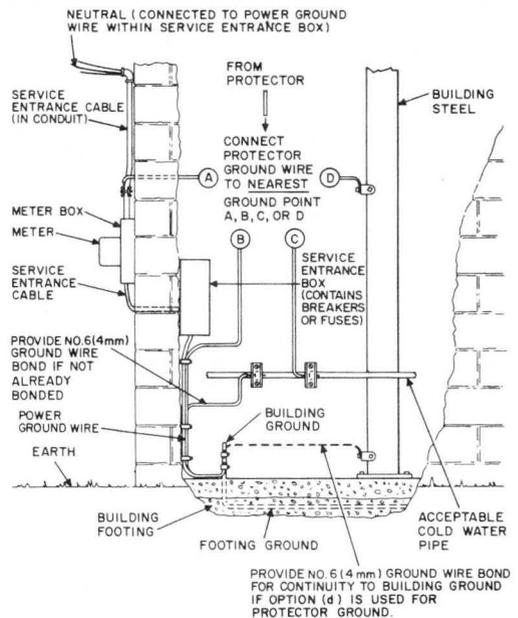

Fig. 46—Acceptable Water System or Building Ground (Power Service Grounded to Footing Ground)
6.05 Station protectors installed at locations where the power is grounded to a concrete encased electrode or to grounded building steel should be grounded as shown in Fig. 46 and 47.